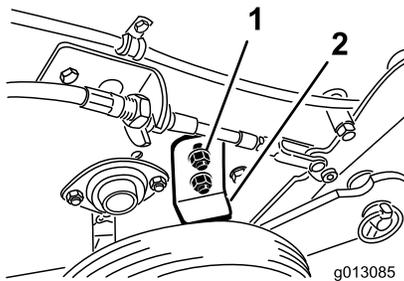

Figure 14
2. Loosen the nuts securing the wheel stop on the right side of the machine (Figure 14).